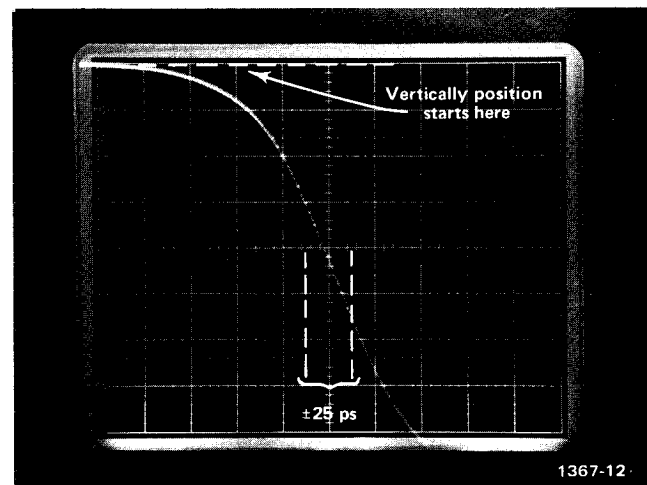

Fig. 2. -INPUT signal.
6. Vertically position the trace so that the pulse (now negative going) starts at the graticule upper left side. Check that the trace intersects the horizontal graticule centerline within ± 25 ps of the vertical line, see Fig. 2.